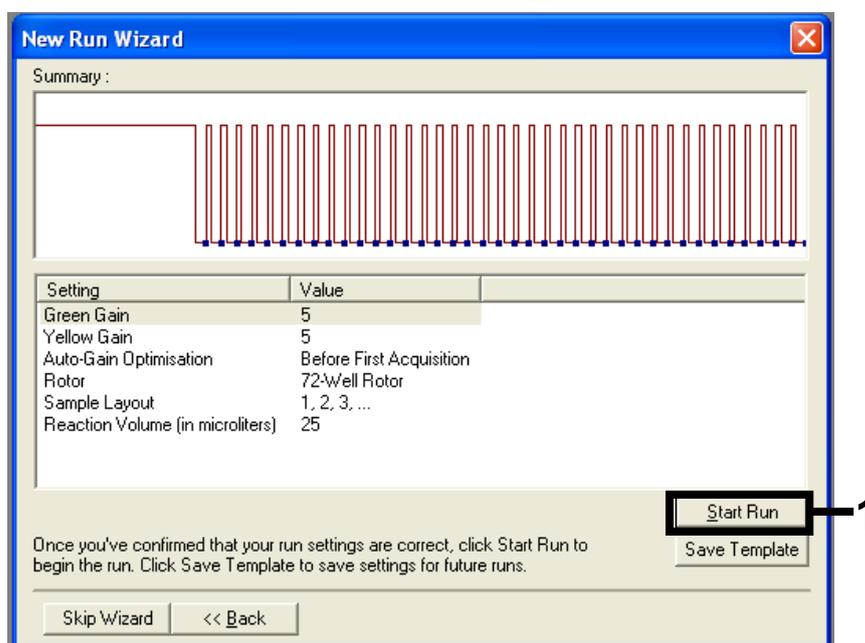

Figure 36. The "New Run Wizard" dialog box and summary screen. (1 = "Start Run" button).
6. Check the summary and click "Start Run" to save the run file and start the run (Figure 36).